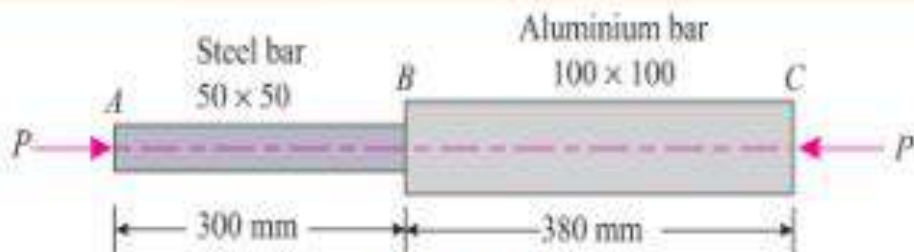

Fig. 4.3
**EXAMPLE 4.2.** A member formed by connecting a steel bar to an aluminium bar is shown in Fig. 4.3.